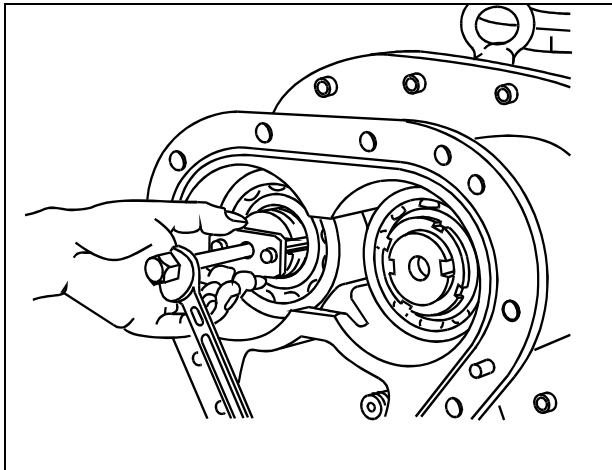

Figure 13: Dismantling the axial bearings (13) using removal device T1
- Bend the tab of the lock plates (24) and unthread the grooved nuts (23) using tool T5 (figure 13).
- Remove the axial bearings (12) from the rotor shafts:
- Fasten the hook to the transverse bracket of the device with nuts and remove the bearing with I-rings according to figure 13.